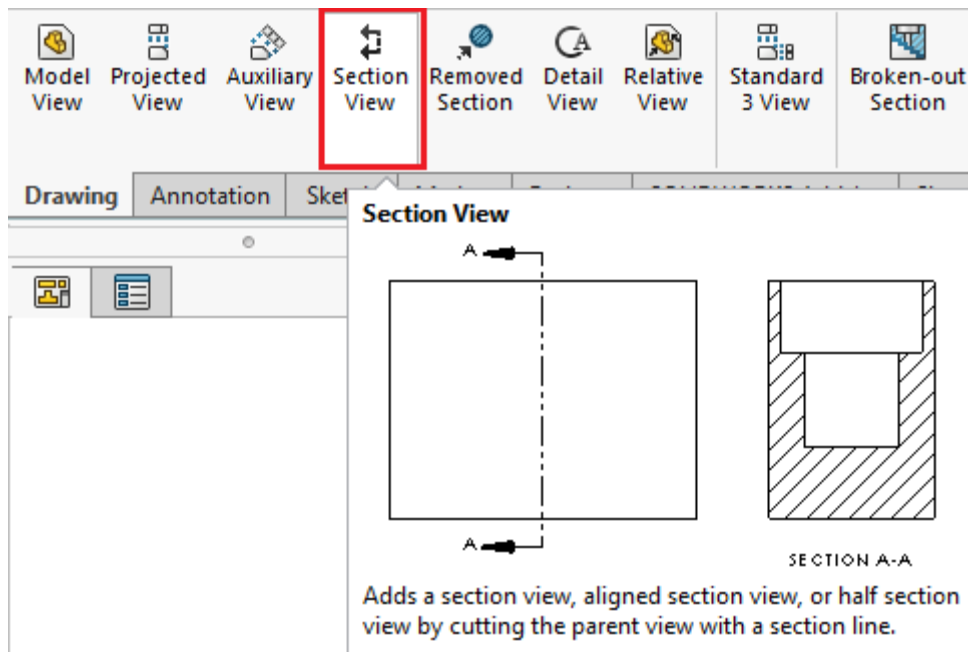

Fig. 4.10.
1. Make the front view active by double-clicking the left mouse button on the view, then draw the cutting line using the **Section view** (fig. 4.10).